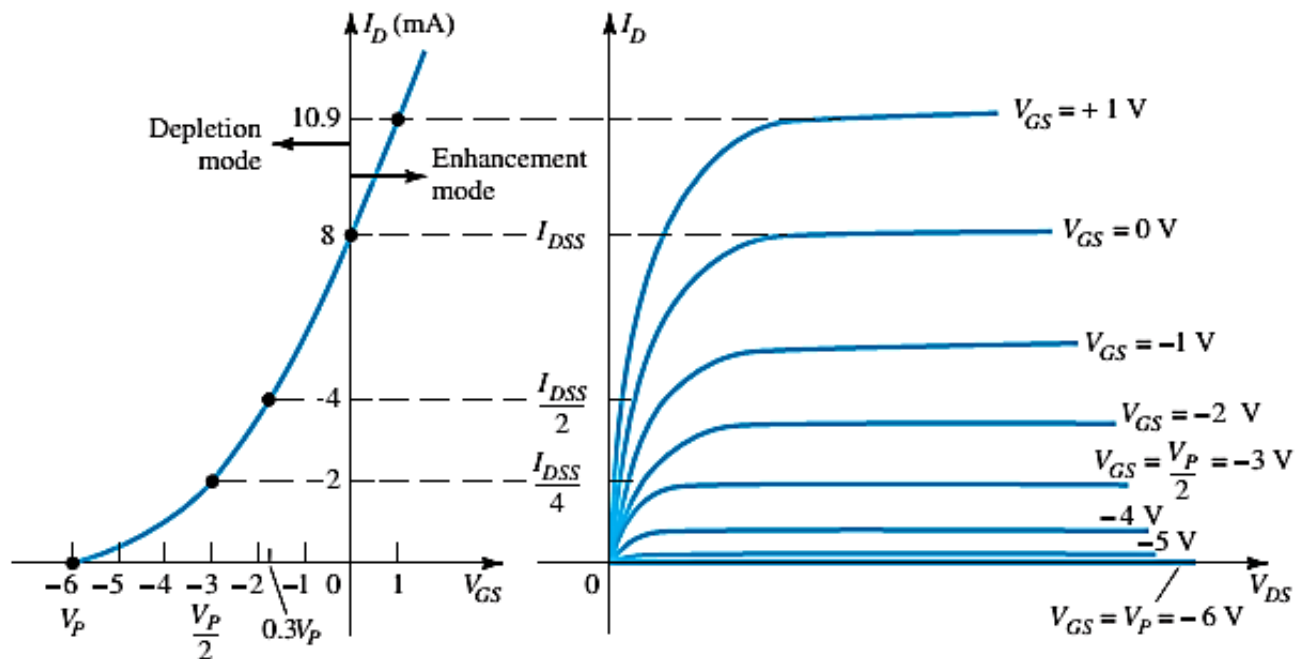

**FIG. 6.25**
- In Fig. 6.25 the gate-to-source voltage is set to 0 V by the direct connection from one terminal to the other, and a voltage  $V_{DD}$  is applied across the drain-to-source terminals.